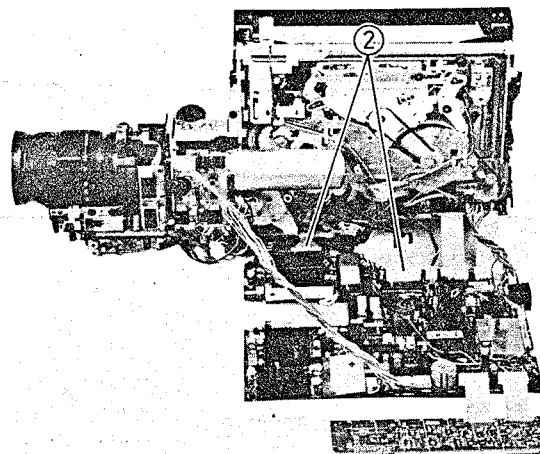

Fig. 2-82 Lower Cylinder (Cylinder Motor) Removal
Lower Cylinder (Cylinder Motor) Removal (Figs. 2-82, 2-83)
2. Disconnect two (2) flat cables (CN613, CN214). (See Fig. 2-82)